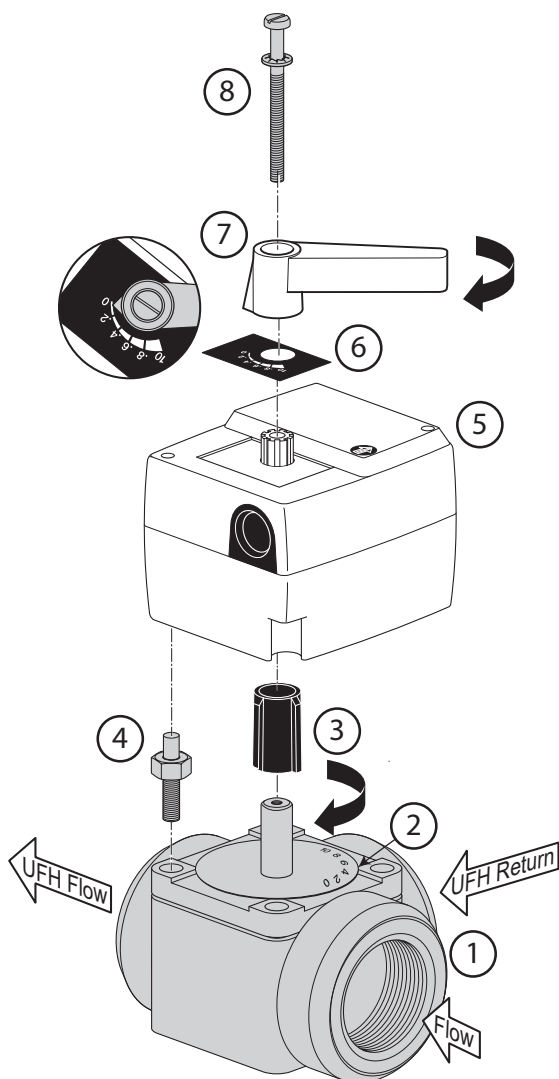

Figure C-3: Motorised Actuator and 3-Port Valve
2. Ensure actuator scale plate is in position and set as per Figure C-3. i.e. '0' to the right.